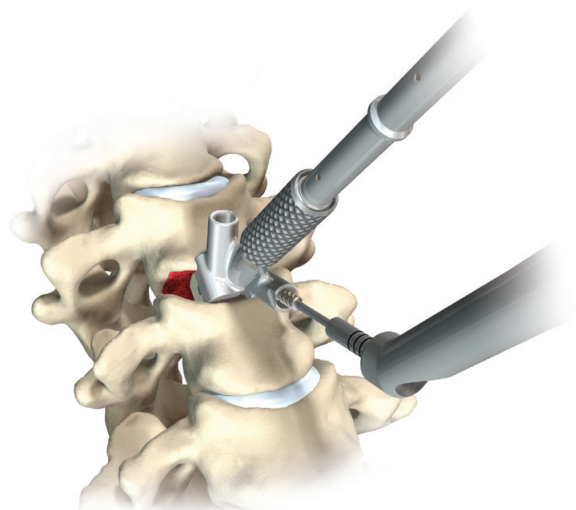

Figure 19
- Insert the screw into the prepared screw hole (Figure 19).